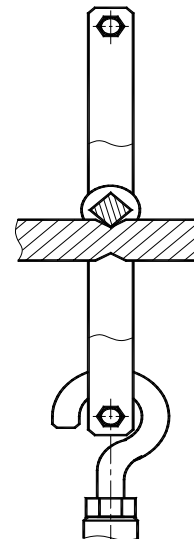

Figure 4.2.b
4.5 There are 4 weights with marks in all for this tester. The 4 marks can be seen in figure 4.1. open the side door of the tester, remove all of the rubber protection belts. Then start installing the weights in the order of 1, 4, 3, 2, in which the weight 1 is hung in the hanging groove of underside lever and the weights 4,3,2 are all hung on the upside lever, please refer to the figure 4.2 for weights 1, 2, and figure 4.3 for weights 3, 4. Do make sure they are hung in the groove.